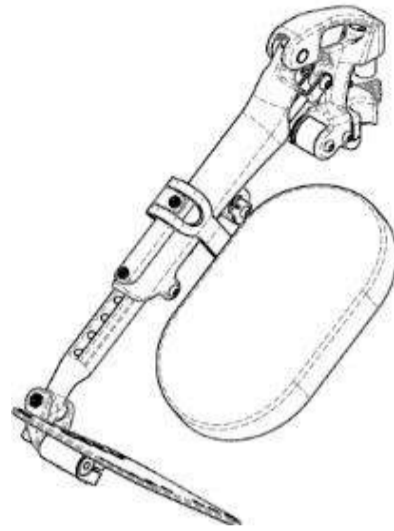

Figure 14.12: Elevating Legrest Footrest Height adjustment
1. Loosen and remove the $\frac{1}{4}$ -20 x 1-3/4" Socket Button Head which holds the ELR's linear locking device, shown in Figure 14.12.